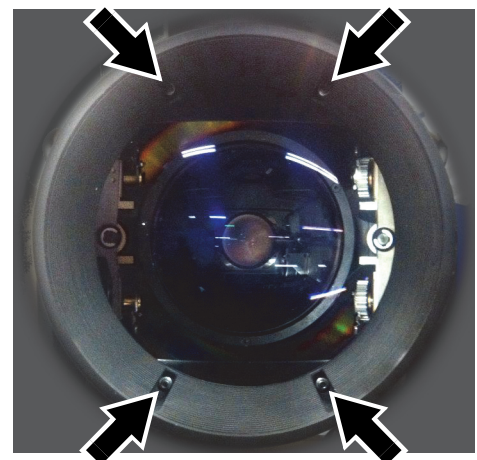

Figure 3
4. See Figure 3. Release the four screws (arrowed) from the front lens assembly, then release the front lens safety attachment. Remove the front lens assembly and store it for possible re-use if the fixture is to be returned to standard configuration at a later time.